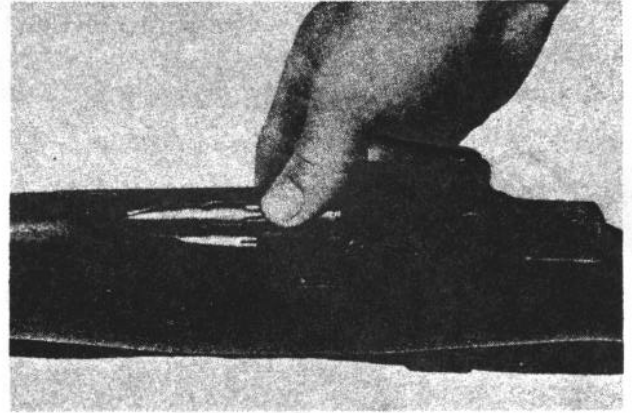

Figure 20. Loading a partially filled clip.
c. Partially filled clip. To load a partially filled clip, hold the rifle in the same manner prescribed for a full clip. With the operating rod all the way to the rear, place an empty clip into the receiver. Place the first round into the clip and on the follower, to the left of the follower slide. Press the second round into the clip, exerting a downward, turning motion until the round snaps into place. Load the remaining rounds in the same manner (fig. 20). With the knife edge of the right hand against the operating rod handle force the operating rod slightly to the rear. Push down on the top round with the right thumb, allowing the bolt to start the top round forward. Remove the right hand and allow the operating rod to go forward.